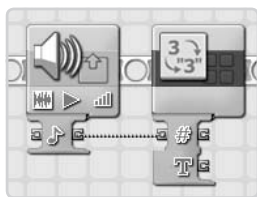

Figure 8-37: A broken wire
As you are writing your program, it's possible to connect a data wire in such a way that it won't work correctly. A data wire that is not connected properly is known as a *broken wire*. A broken wire is shown as a dashed, gray line (as shown in Figure 8-37) to let you know that the program has a problem.
- \* **There is no input data.** This happens when you connect a data wire to the output side of a pass-through plug without connecting the input side. This is the problem shown in Figure 8-37.